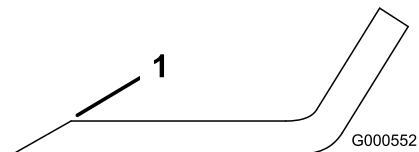

Figure 94
1. Use a file to sharpen the cutting edge at both ends of the blade (**Figure 94**).
Note: If the blade is not balanced, file some metal off the end of the sail area only (Figure 94).